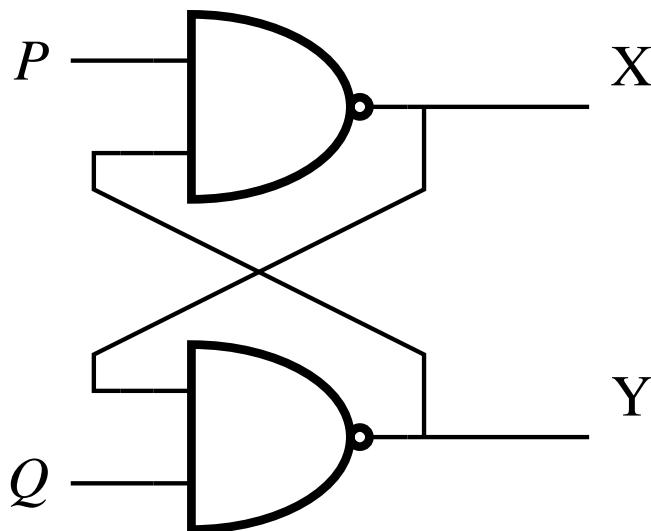

Fig. 5.32
36. In the latch circuit shown in Fig. 5.32, the NAND gates have non-zero but unequal propagation delays. The present input condition is:  $P = Q = '0'$ . If the input condition is changed simultaneously to  $P = Q = '1'$ , the outputs  $X$  and  $Y$  are